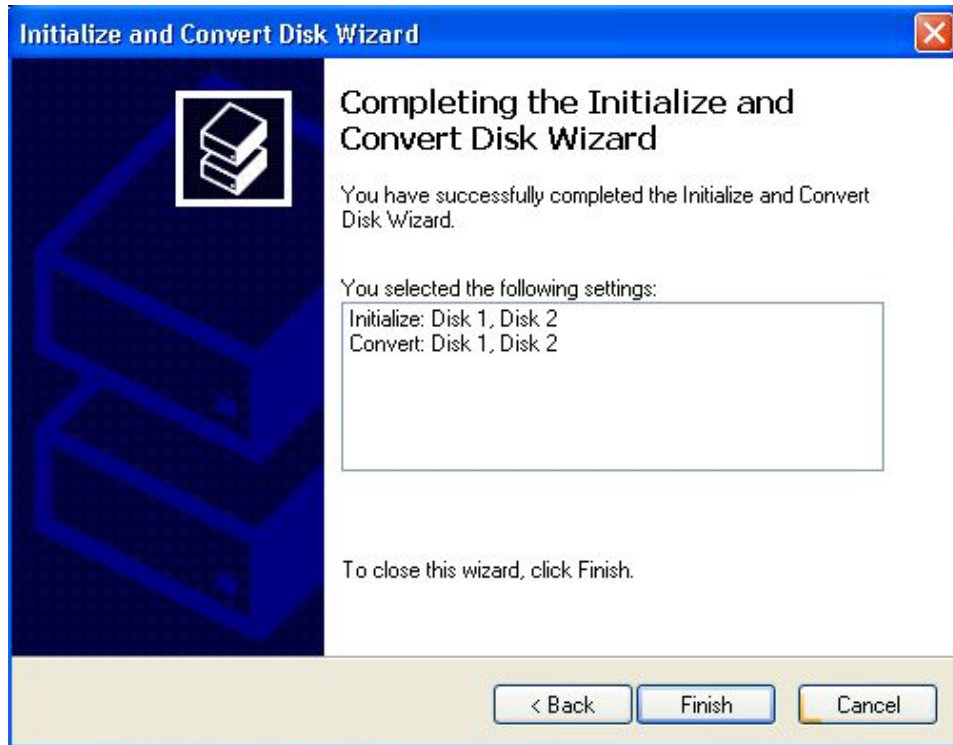

FIGURE 6-18. Initialize and Convert Disk Wizard - Completing the Initialize and Convert Disk Wizard Screen.
6. When the *Initialize and Convert Disk Wizard - Completing the Initialize and Convert Disk Wizard* screen appears, review the information. If it is OK, click **FINISH**. See Figure 6-18.